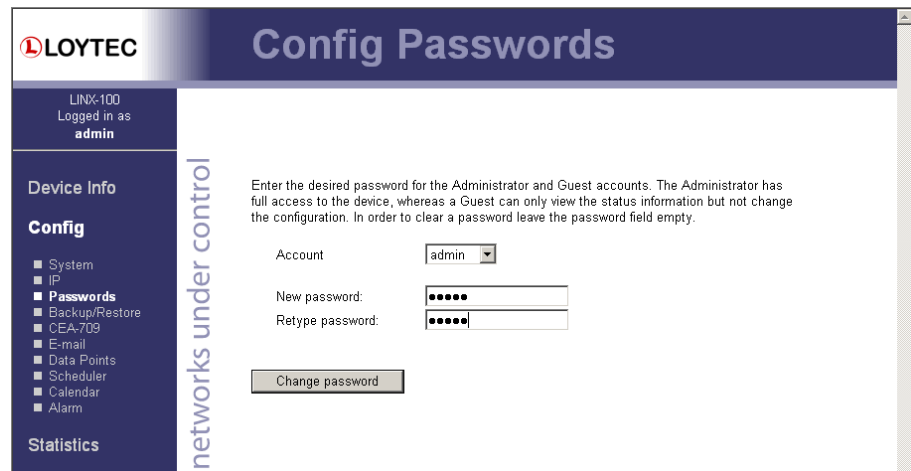

Figure 19: Password Configuration Screen.
The Config menu opens. Click on **Passwords** in the Config menu, which opens the password configuration page as shown in Figure 19. The LINX-10X has three user accounts: (1) **guest** allows the user to view certain information only, e.g., the device info page. By default the guest user has no password. (2) **operator** is able to read more sensible